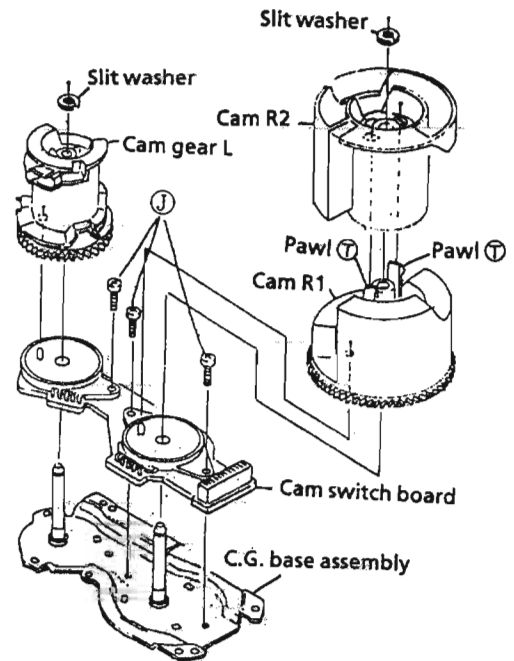

Fig. 2-22
(See Fig. 2-22.)
Remove 3 screws ② securing the C.G. base ass'y. (See Fig. 2-22 and 2-23.)